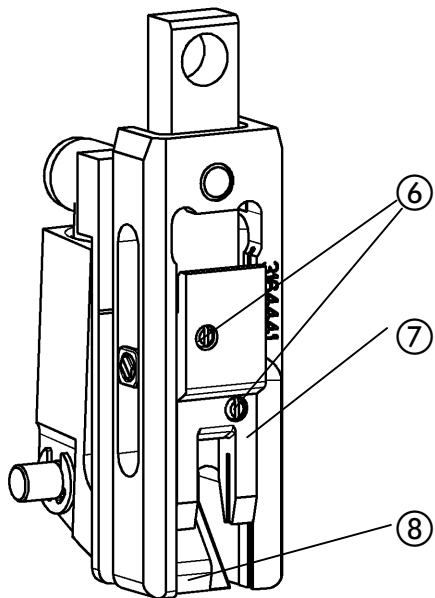

Fig. 38
- Fig. 38 -
- Unscrew setscrew ⑥ and push the driver ⑦ down out of the bender.
- Press shoe tongue ⑧ back and push driver into bender from beneath.